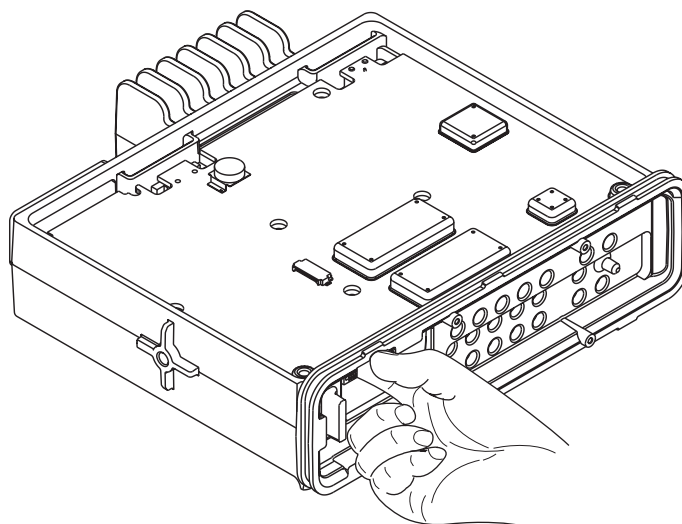

Figure 5-8 Transceiver Board Removal
6. Remove the transceiver board by sliding a finger into the opening provided at the front of the radio and gently pressing up on the 30-pin connector, lifting up the front of the transceiver board, as shown in Figure 5-8. Then, slide the transceiver board towards the front of the radio to allow the RF/DC connectors to clear the chassis. Handle the transceiver board by the edges only and store it in an antistatic bag.